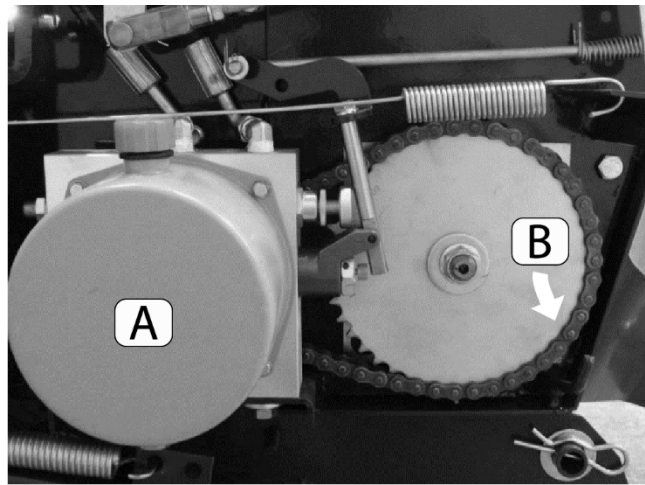
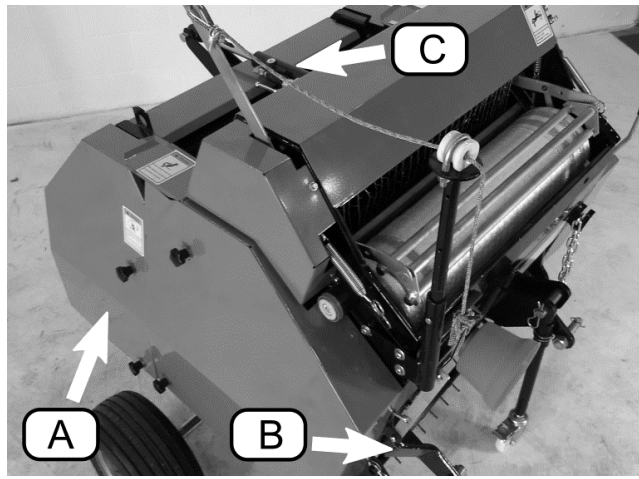
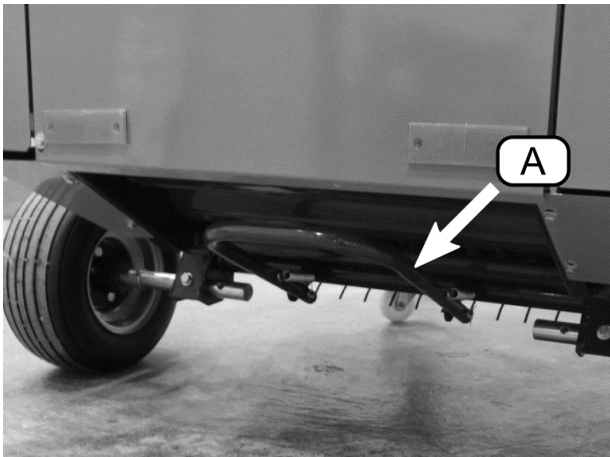

Figure 8 Right side of baler
Figure 14
Figure 15 Rear of baler
The baler raises the tailgate to eject the bale using a hydraulic cylinder. Hydraulic fluid is pushed into the cylinder by the hydraulic power pack (Figure 8, A), which is powered by the rotating motion of the PTO shaft which turns the roller chain (B).
The bale is discharged from the chamber by lifting the tailgate (Figure 14, A). Pulling the tailgate lift lever (B) activates the hydraulic power unit (Figure 8, A) to retract the cylinder (Figure 14, C) to pull the gate open. The gate remains open while the lever is pulled. Once the lever is released, the gate closes. The bale ejector (Figure 15, A) rolls the finished bale far enough from the machine to allow the gate to close.